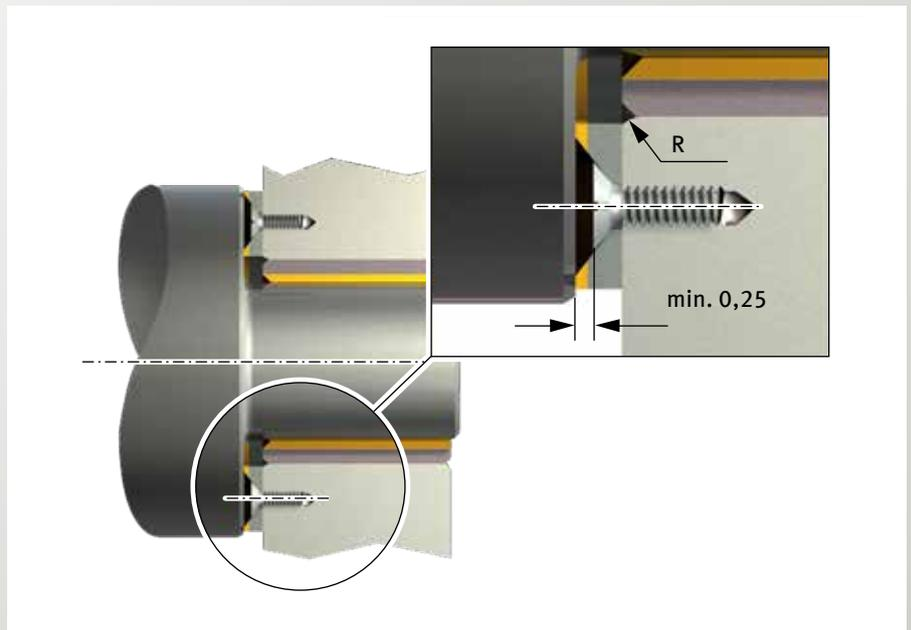

Fig. 42: Securing a PAW thrust washer without a recess in the housing
- Secure with several dowel pins or screws (Fig. 42)